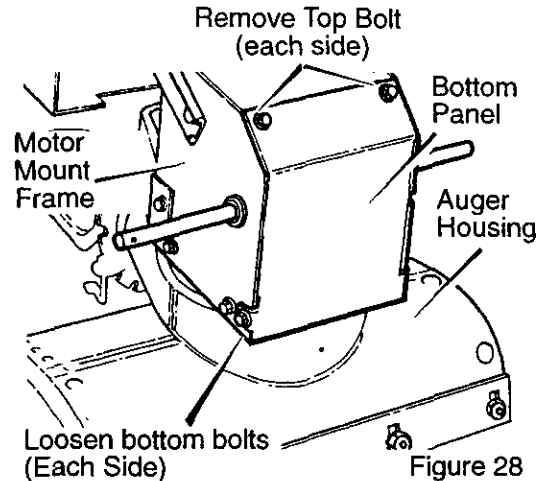

Figure 28
3. Remove the **bolts** on each side of the **bottom panel**. See Figure 28.
2. Install the **bottom panel**. See Figure 28.
3. Remove the **top bolts** on each side of the **bottom panel**. See Figure 28.
16. Install the **bottom panel**. See Figure 28.